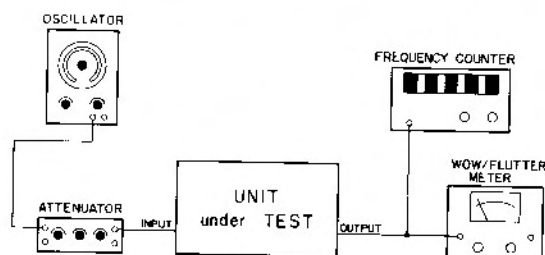

Fig. 2-9.
1. Connect a Wow-and-Flutter Meter to the deck as shown in Fig. 2-9.